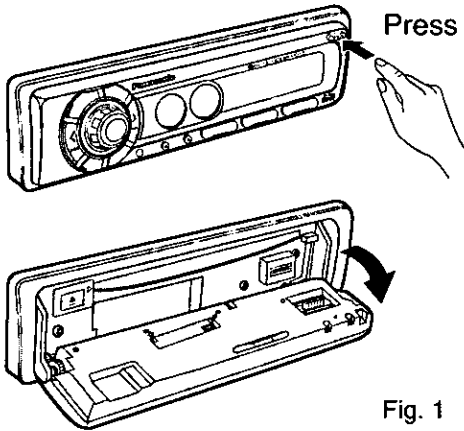

Fig. 1
- b) Pull out the unit while pushing two lock levers using Screwdriver in the following order.(Fig.1, 2)